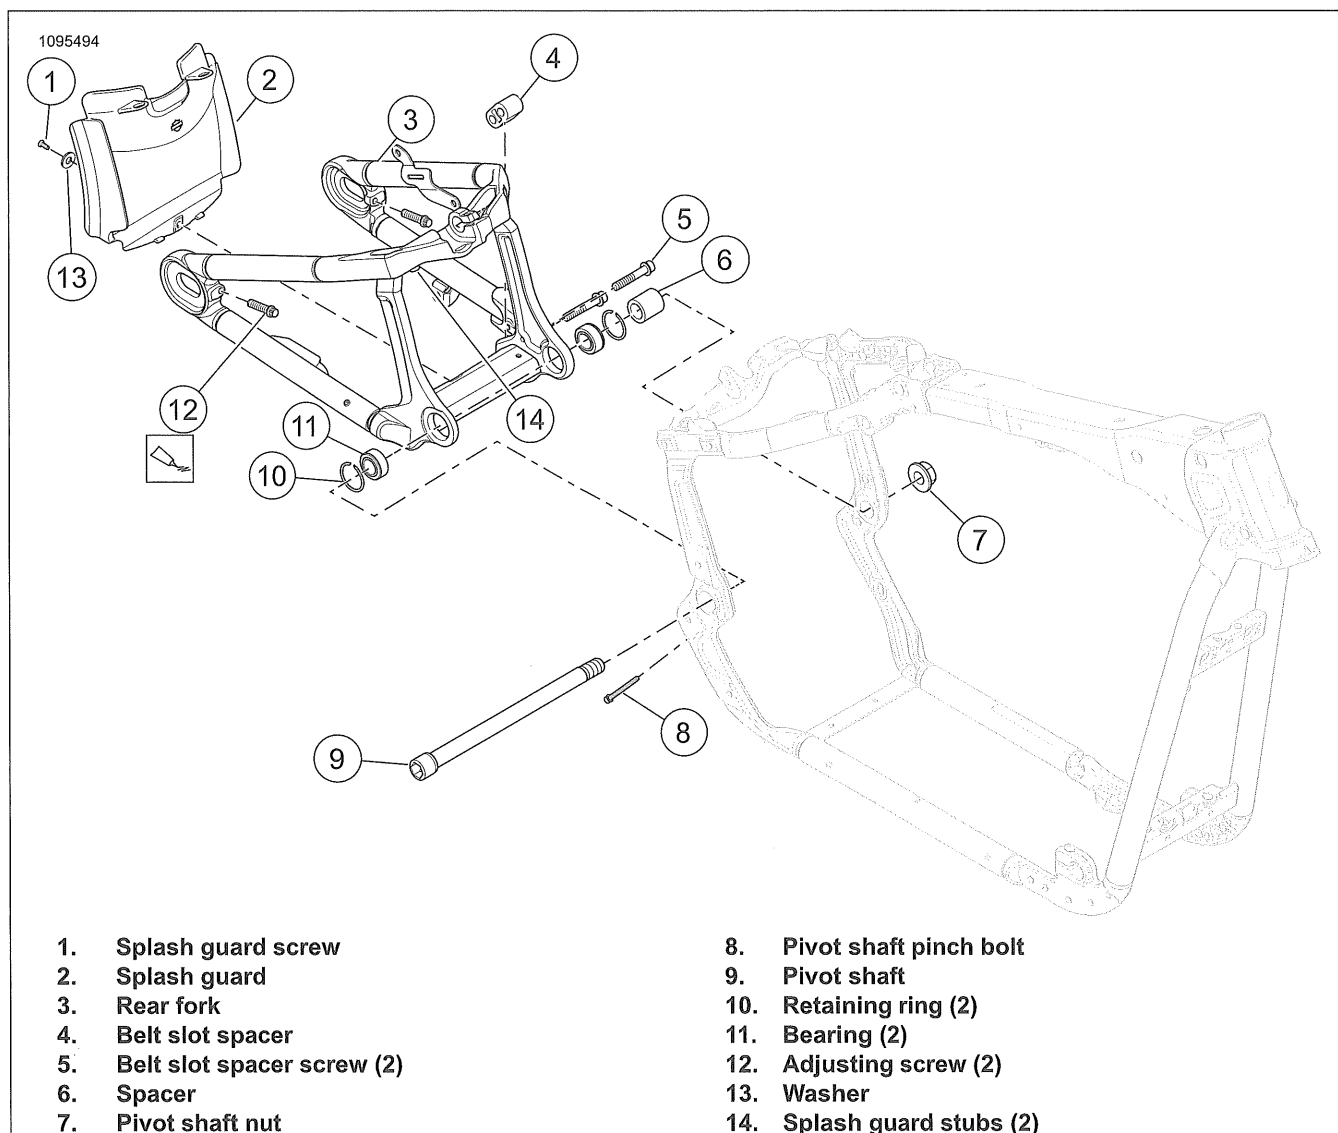

Figure 3-83. Rear Fork Assembly
1. See Figure 3-83. Remove rear fork.
- b. Support rear fork (3).
- c. Loosen pinch bolt (8).
- d. Remove nut (7).
- e. Remove pivot shaft (9) and spacer (6).
1. See Figure 3-83. Install splash guard.
- a. Place the bottom tabs on splash guard (2) into the slots on rear fork (3).
- b. Slightly bend the splash guard top mounting tabs and push the top onto the stubs (14) protruding from the fork.
- c. Install washer (13) and screw (1). Tighten.
- o. See Figure 3-83. Tighten pivot shaft pinch bolt (8).